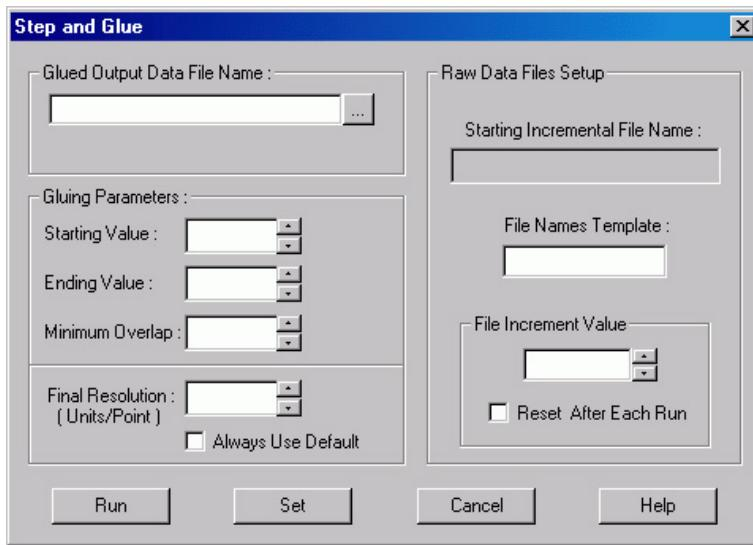

Figure 133. Step and Glue Setup dialog box
4. From the Acquisition menu, select **Step and Glue**. The Step and Glue dialog box (Figure 133) will appear. *For more information, see the online Help for this dialog box.*